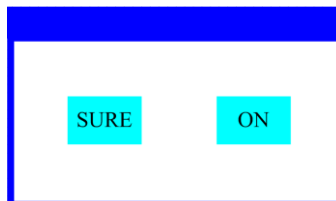

Figure 3 Dialog of confirm
- When the parameter is a key item, click corresponding item, a dialog shown in Figure 3 will be popup ask for the confirm. Click 'sure' to confirm.